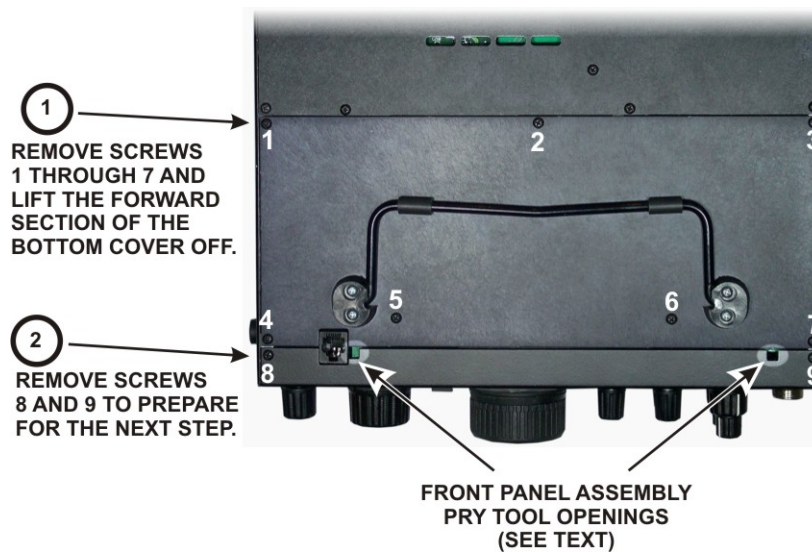

Figure 6. Removing Bottom Cover and Front Panel Assembly Screws.
- Refer to Figure 6 and remove screws 1 through 7, then lift the forward section of the bottom cover off. Put it in a safe place to avoid scratches.
- Refer to Figure 6 and remove screws 8 and 9 that secure the bottom of the front panel assembly.
Replace the forward bottom cover using seven 3/16" (4.8 mm) black pan head screws (see Figure 6 on page 3).